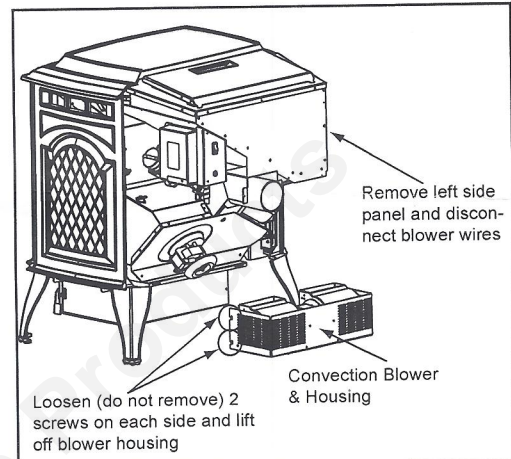

Figure 1
4. There are 2 screws on each side of housing. Loosen all 4 screws, but do not remove them. Lift the blower housing up slightly and slide towards you. **Figure 1.**